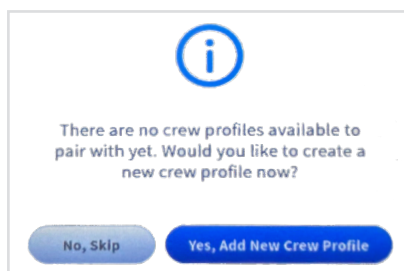

Fig. 1.22
- ** The person you are calling must be enrolled in the Crew Profile directory and wearing a headset. See Fig. 1.22 for example. You cannot call an individual if they are using the headset but not enrolled (i.e., the user selected “Continue as guest” when pairing). First names, last names, or full names can be used. For example, if there are two crew members with the same first name, then the headset will prompt you to use the last name of the person you wish to talk to. The receiver must tap the Action key () on their headset to answer. To end the call, either person can tap the Action key () and exit this state.
Once your headset is successfully paired, one of two dialog boxes appears. If there are no crew profiles set up in the system, then Fig. 1.22 will appear. Tap the **No, Skip** button to continue as a guest (this will open the “Select Your Position & Options dialog,” see Fig. 1.24). Or, tap the **Yes, Add New Crew Profile** button (this will open the Create Crew Profile dialog, see “Chapter 2 - Crew” on page 17 and Fig. 2.2).